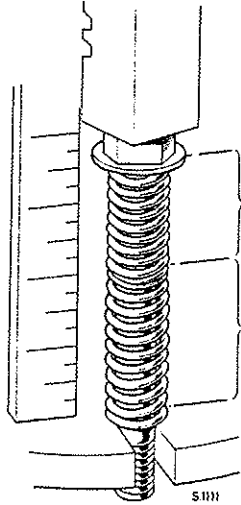

Fig. B.3. Checking valve springs
3. A convenient alternative method of checking used valve springs is by comparing them with new springs. Place them end to end on a long bolt and compress them in a press (see Fig. B.3). Any loss will then be apparent as the weaker spring will close up first.